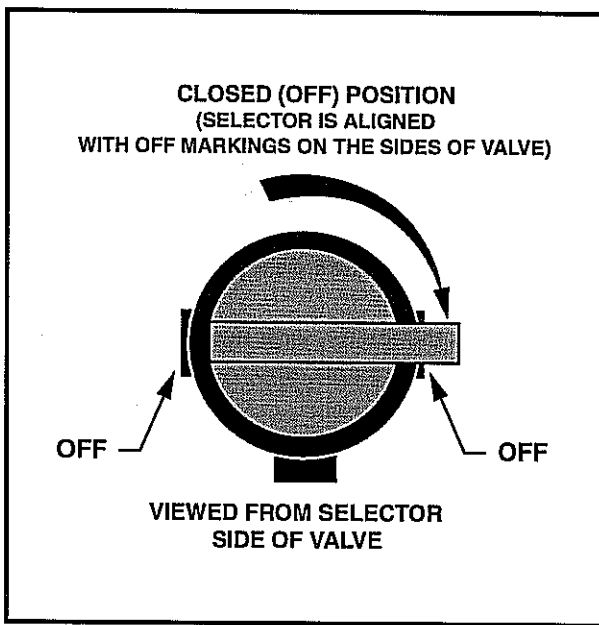

Figure 10 Fuel Shut-off Valve – Closed Position
**Gasoline vehicles only:** Turn the fuel shut-off valve to the closed (OFF) position when the vehicle is not in use (Figure 10, Page 26). See also Figure 32 and Figure 33 on page 42.
- Gasoline vehicles only: Turn fuel shut-off valve to the closed (OFF) position (Figure 10).
- Gasoline vehicles only: Turn fuel shut-off valve to the closed (OFF) position (Figure 10, Page 26).